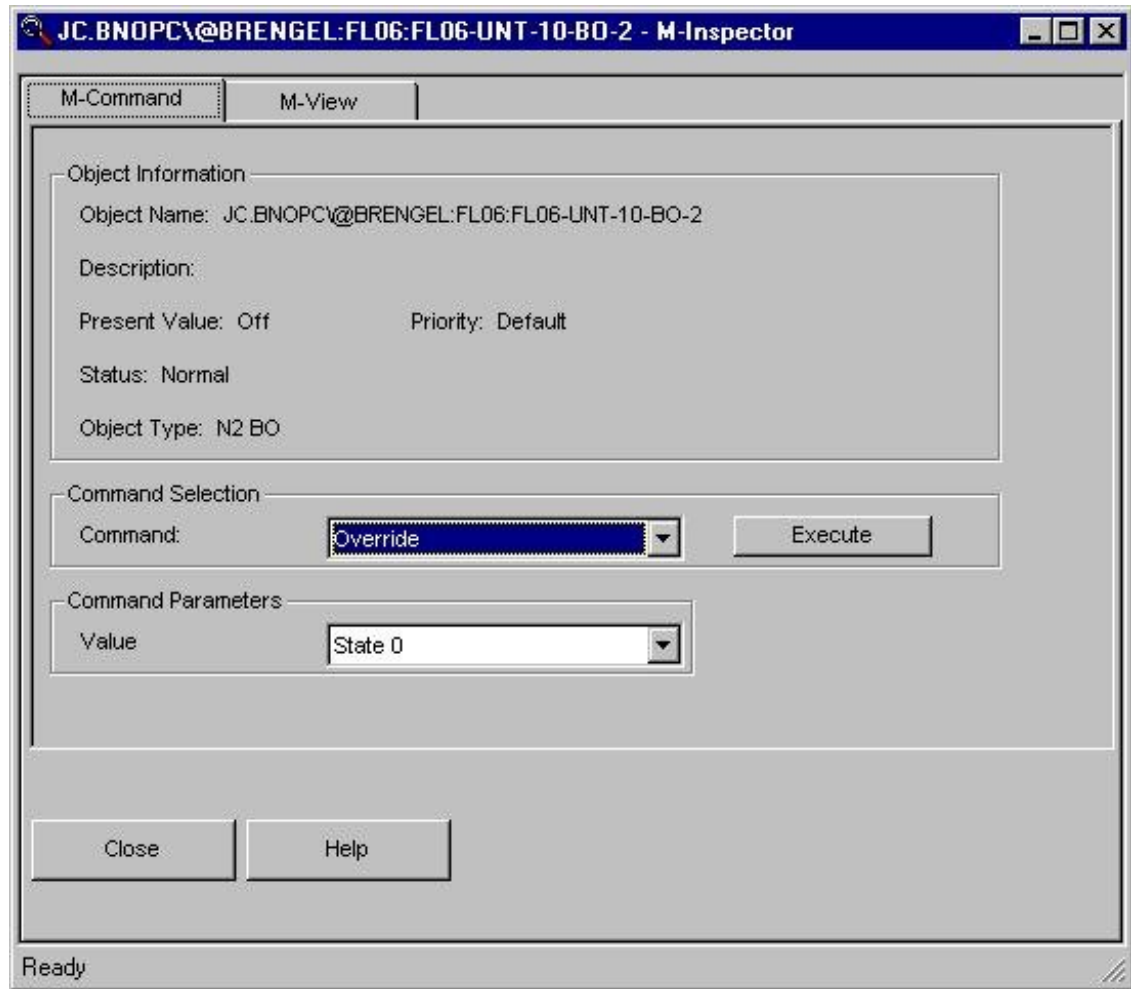

Figure A-5: Command Parameters
4. Select a command from the list. If the command selected has additional command parameters, the Command Parameter section appears below the Command Selection section in the M-Inspector window (Figure A-5). For more information about the object's supported commands, refer to the *Object Dictionary (FAN 694)*.